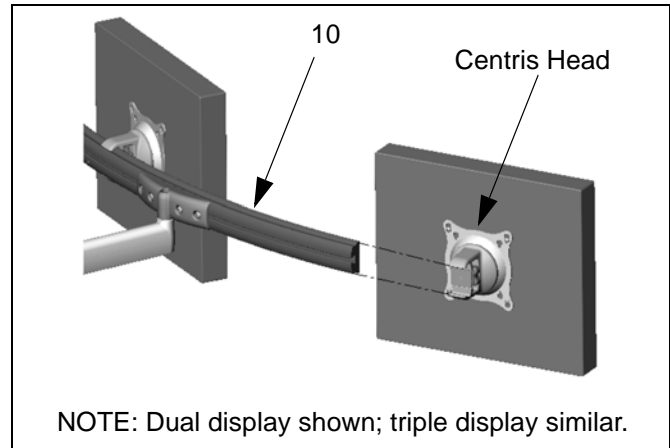

Figure 15: Install Display
6. Slide the Centris head (dual knob assembly) onto the array (10) (See Figure 15). Ensure both the top and the bottoms of the Centris head are engaged into the corresponding slots in the array (10).